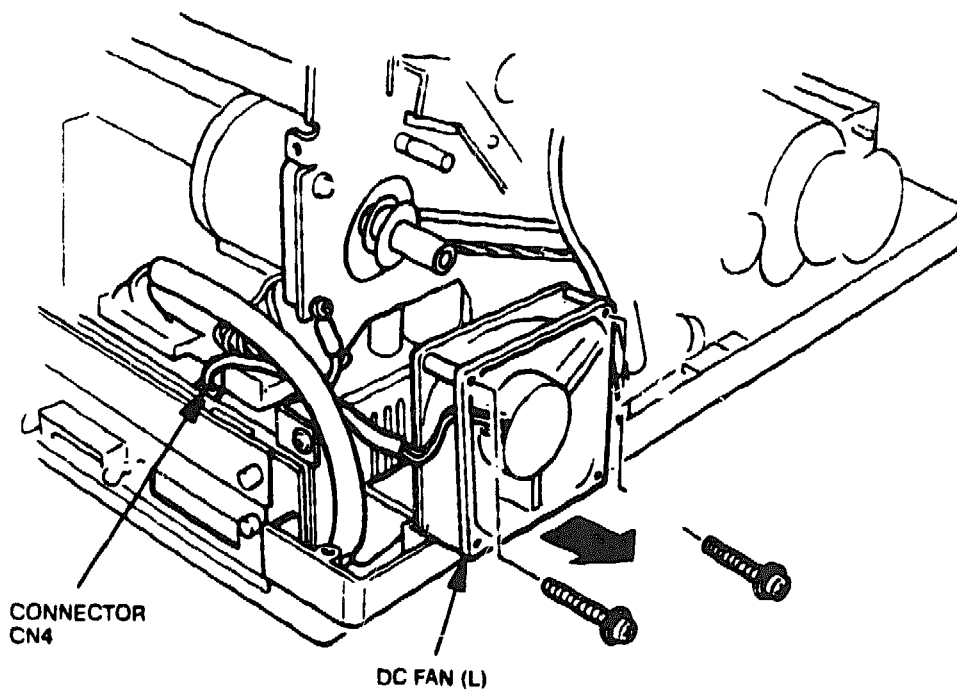

Figure 6-60 DC Fan (L) Removal
3. Unplug connector CN4 from the power supply (see Figure 6-60).
4. Remove the two DC fan (L) screws and remove the DC fan from the printer (see Figure 6-60).